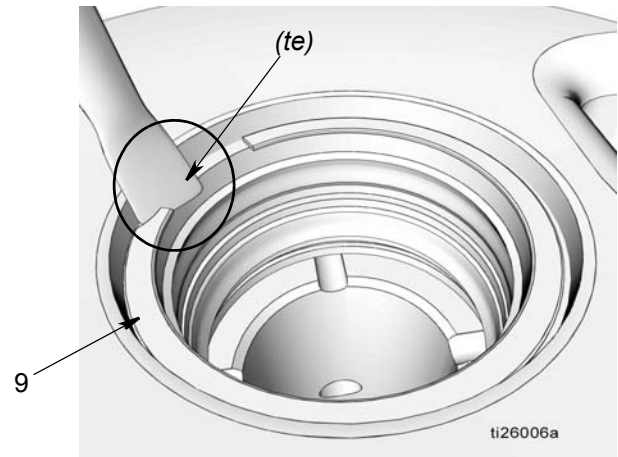
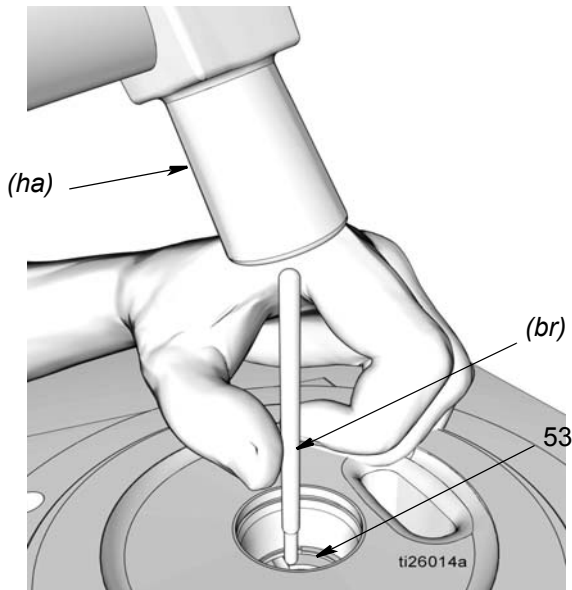

FIG. 26
FIG. 27
- a. Slide the blade of a small, flat screw driver under the tapered edge (*te*) of retaining ring (9) and remove the ring as shown in FIG. 26.
- b. Remove the tapered spacer (10), seal (11), and spacer (12).
- c. Use the blade of a small, flat screw driver under the tapered edge (*te*) of retaining ring (51) to remove the ring as shown in FIG. 26 and remove the retaining ring.
- d. Remove spacer (12), seal (11), and spacer (12).
- DO NOT REMOVE THE LAST RETAINING RING (51).**
19. Use a soft brass rod (*br*) and hammer to gently tap the pump element sleeve (53) out of the pump base (1) (FIG. 27).